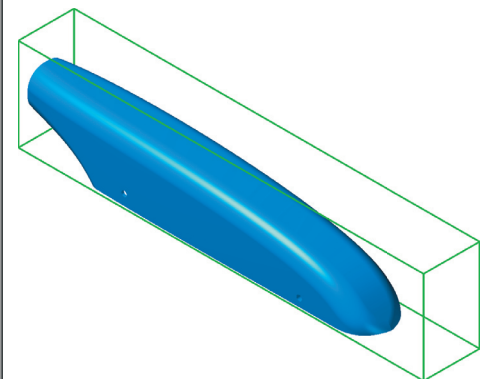

Fig. 30
Step 5. Click OK  to close the Translate dialog box, Fig. 30.